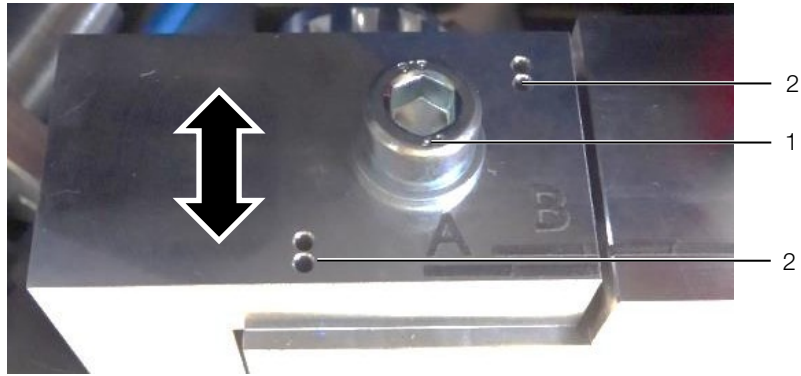

Fig. 12: Adjusting the opening wedge (set: B)
- Release the fixing screw (fig. 12, item 1) until the adjustment plate can be lifted slightly above the catch pins.
- Bring the adjustment plate into the required position. In this process, one of the catch pins must fit into the corresponding openings (fig. 12, item 2).
- Tighten the locking screw (fig. 12, item 1).